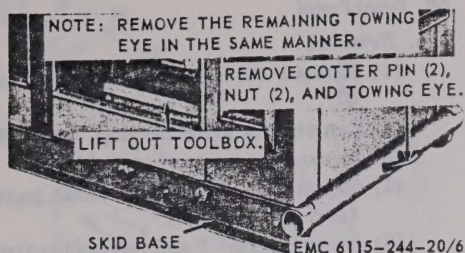

Figure 6. Towing eyes and toolbox, removal and installation.
a. Removal. Refer to figure 6 and remove the towing eyes from the skid base.
- (1) Clean the towing eyes and hardware with an approved cleaning solvent and dry thoroughly.
- (2) Inspect the towing eyes for damage and defects. Replace all parts that are damaged, worn, or defective.
c. *Installation.* Refer to figure 6 and install the towing eyes through the skid base.
- (1) Remove the right front lower access panel (par. 62).
- (2) Refer to figure 6 and remove the toolbox from the generator set.
- (1) Refer to figure 6 and install the toolbox on the generator set.
- (2) Install the right front lower access panel (par. 62).